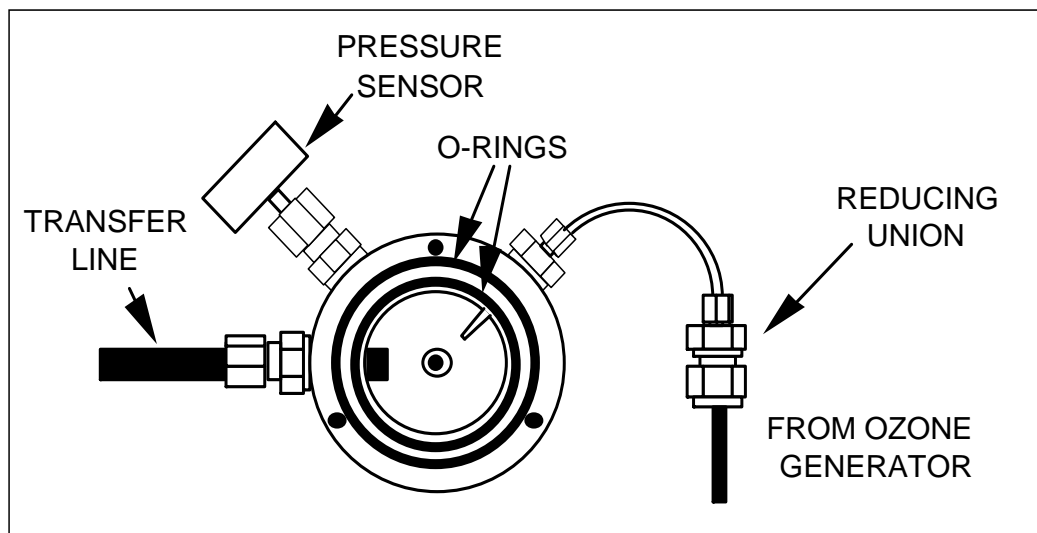

Figure 24 Reaction Cell
- 8 Clean any deposits on the optical filter using a soft cloth or Kimwipe dampened with methanol or deionized (DI) water. Do not leave fingerprints or fibers on the cleaned filter. Deposits inside the reaction cell can be cleaned in the same manner, however, care must be taken to avoid bending the ozone inlet tube that extends into the cell.
- 9 Reseat the pass filter into the PMT housing. Confirm that the two o-rings around the reaction cell are properly seated in the O-ring grooves (see Figure 24). Carefully re-align the reaction cell to the PMT housing, making sure the o-rings remain properly seated, and secure the cell to the housing with the three screws. (The two o-rings must be correctly seated in order to obtain a vacuum-tight and light-tight seal.)